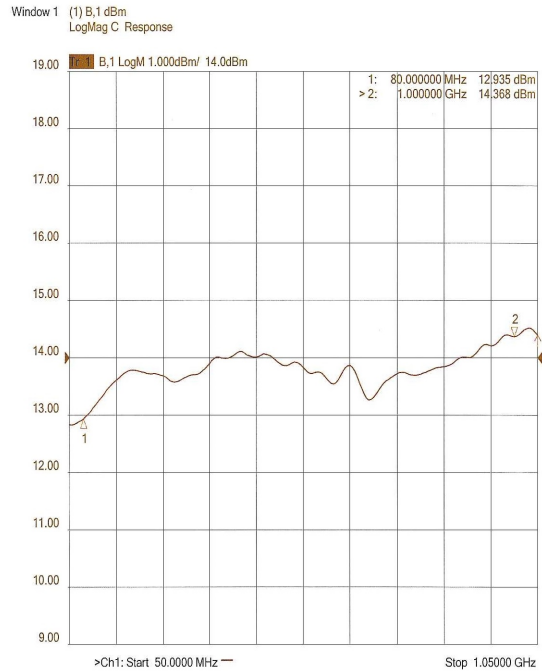

Figure 4-7. Typical A2 Driver Module Response
7. The typical response for the A2 Driver Module Amplifiers is shown in Figure 4-7.